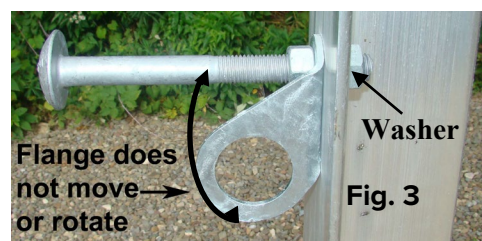

Fig. 3
- ◆ Thread a second nut onto the step bolt threads on the “back side” of the support structure (Fig.3).
- ◆ Test that the Flange does not move. If the Flange moves, remove it, and repeat the installation procedure (Fig.3).